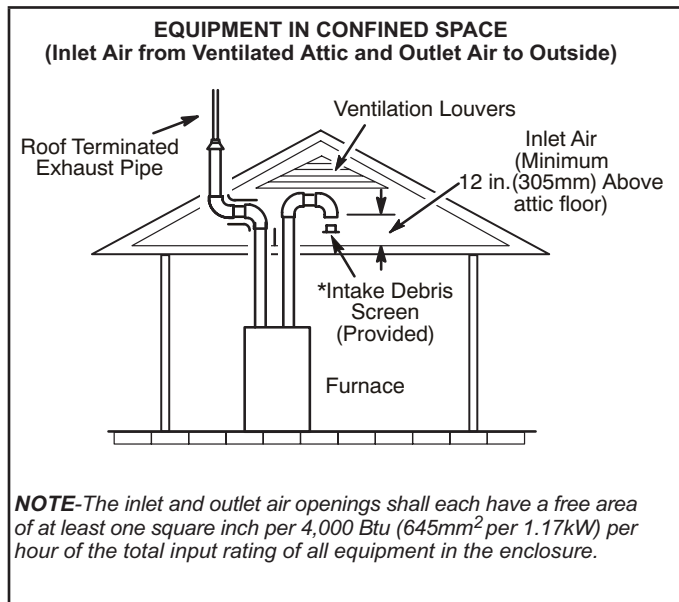
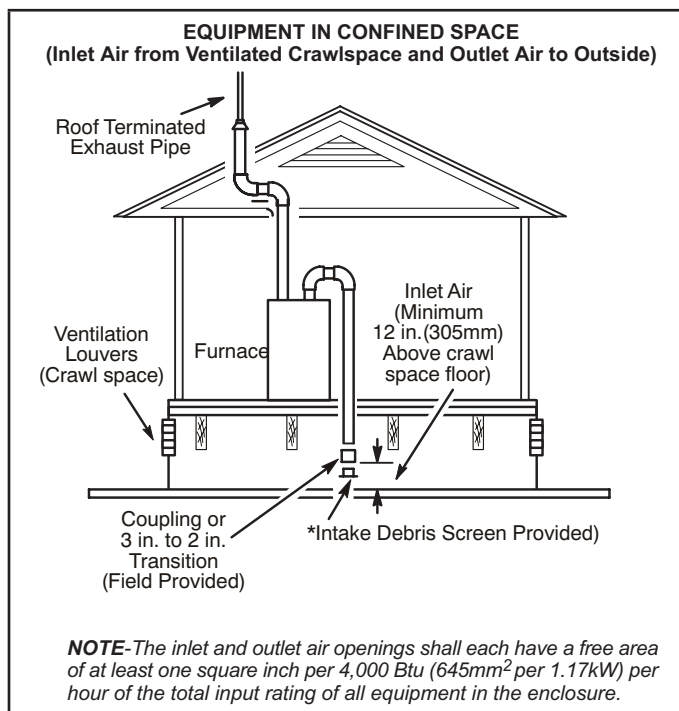

FIGURE 29
FIGURE 30
- 2 - If intake air is drawn from a ventilated attic (FIGURE 29) or ventilated crawlspace (FIGURE 30) the exhaust vent length must not exceed those listed in table 6. If 3" diameter pipe is used, reduce to 2" diameter pipe at the termination point to accommodate the debris screen.